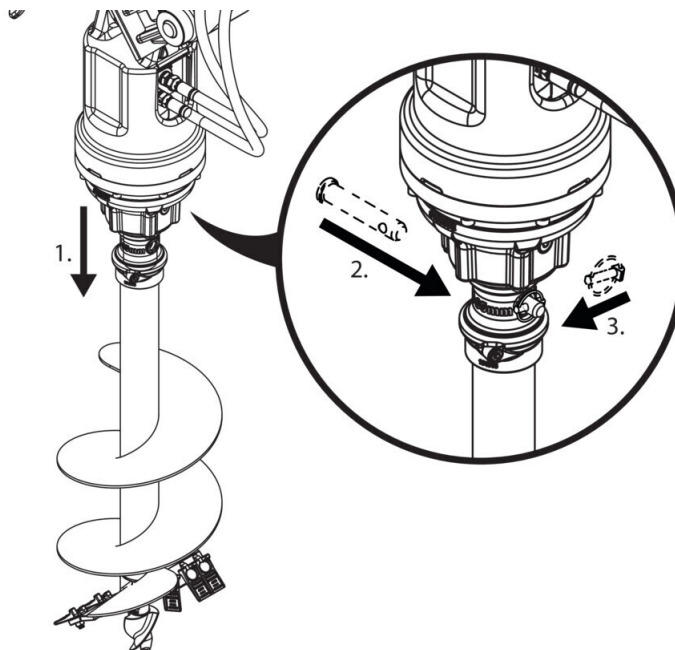

Fig. 37
1. Lower parent machine boom and auger drive unit 1., engaging male output shaft into female auger tool receptacle. **Fig.37.**
2. Insert auger bit locking pin. 2. **Fig. 37.**
3. Capture locking pin with locking clip. 3. **Fig. 37.**